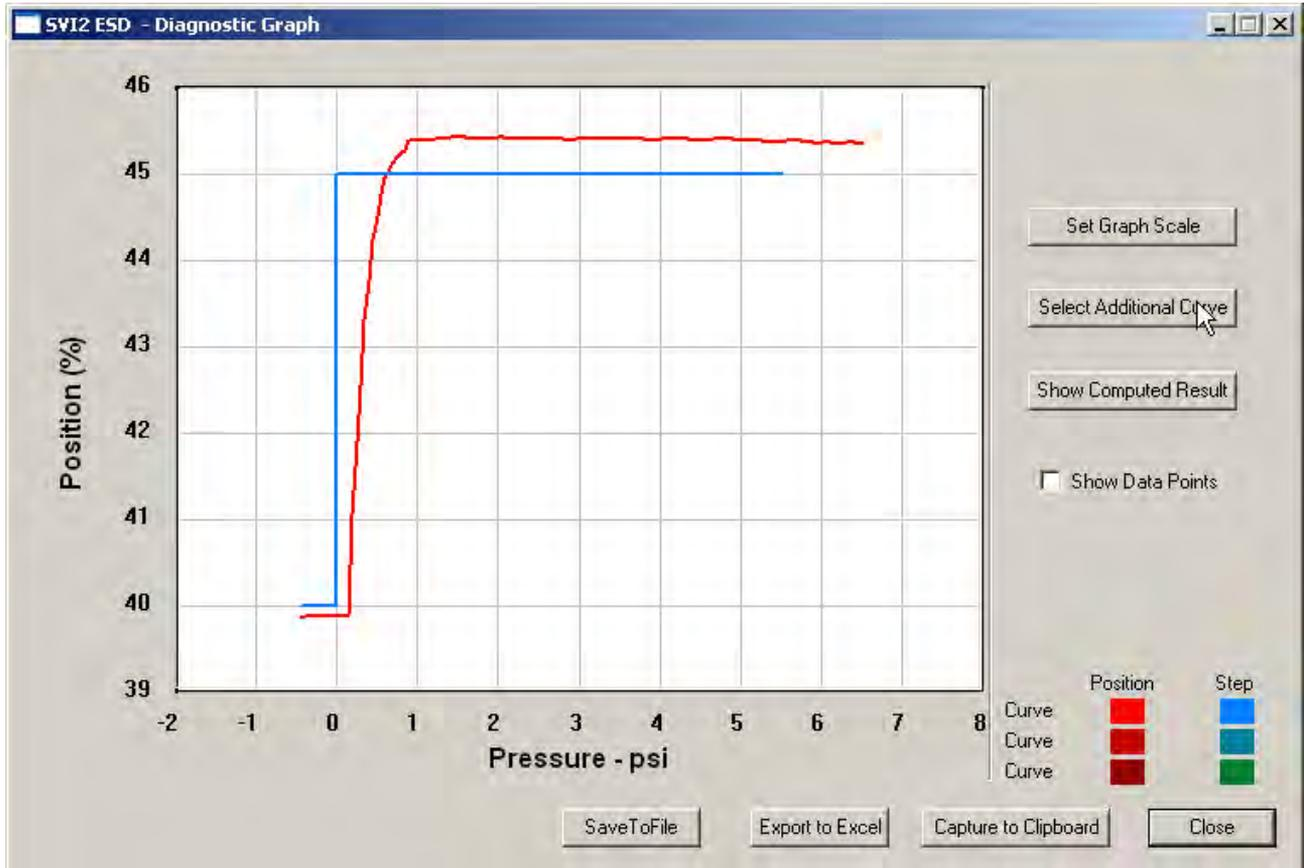

Figure 144 Starting Select Additional Curve
1. Click **Select Additional Curve** (Figure 144).